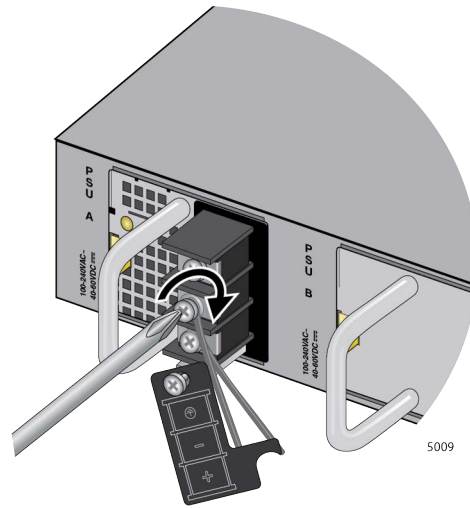

Figure 102. Tightening the Screw for the Negative (-)
4. Wind the power wire and tighten the screw. Refer to Figure 102.